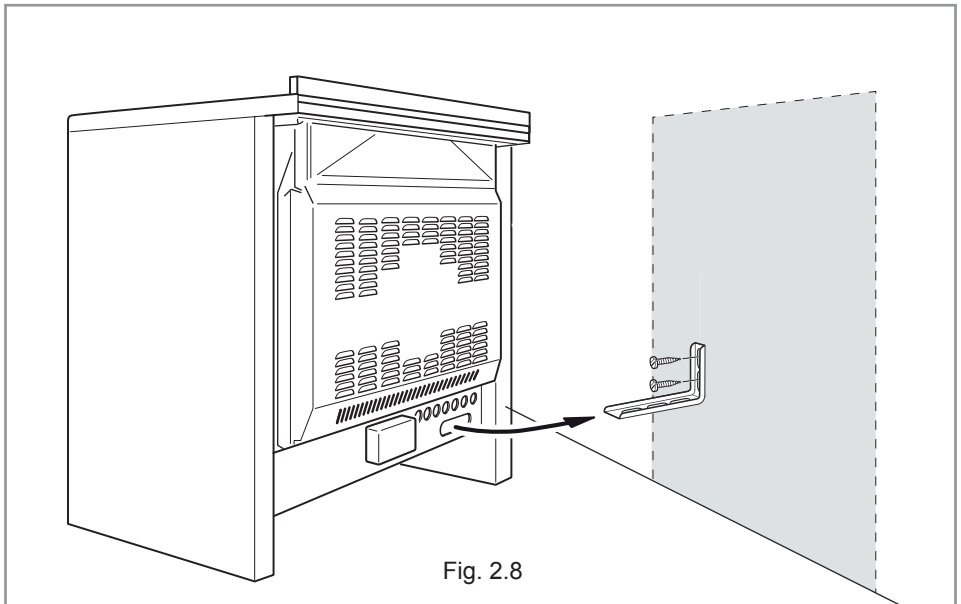

Fig. 2.8
Please follow the indications given in fig. 2.8.
4. Move the cooker to the wall and adjust the height of the anti-tilt bracket so that it can engage in the slot on the cooker's back, as shown in fig. 2.8.